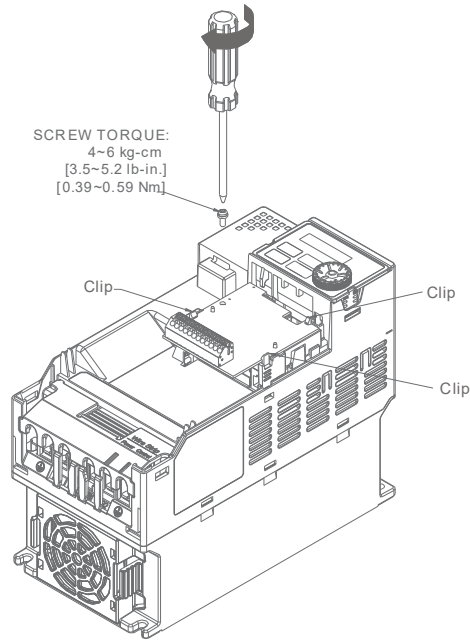

Figure 8-5
5. As shown in the Figure 8-5, make sure that three clips are properly engage the adapter/ option card and then fasten the screw. (Suggested torque value: 4–6 kg-cm [3.5–5.2 lb-in.] [0.39–0.59 Nm])